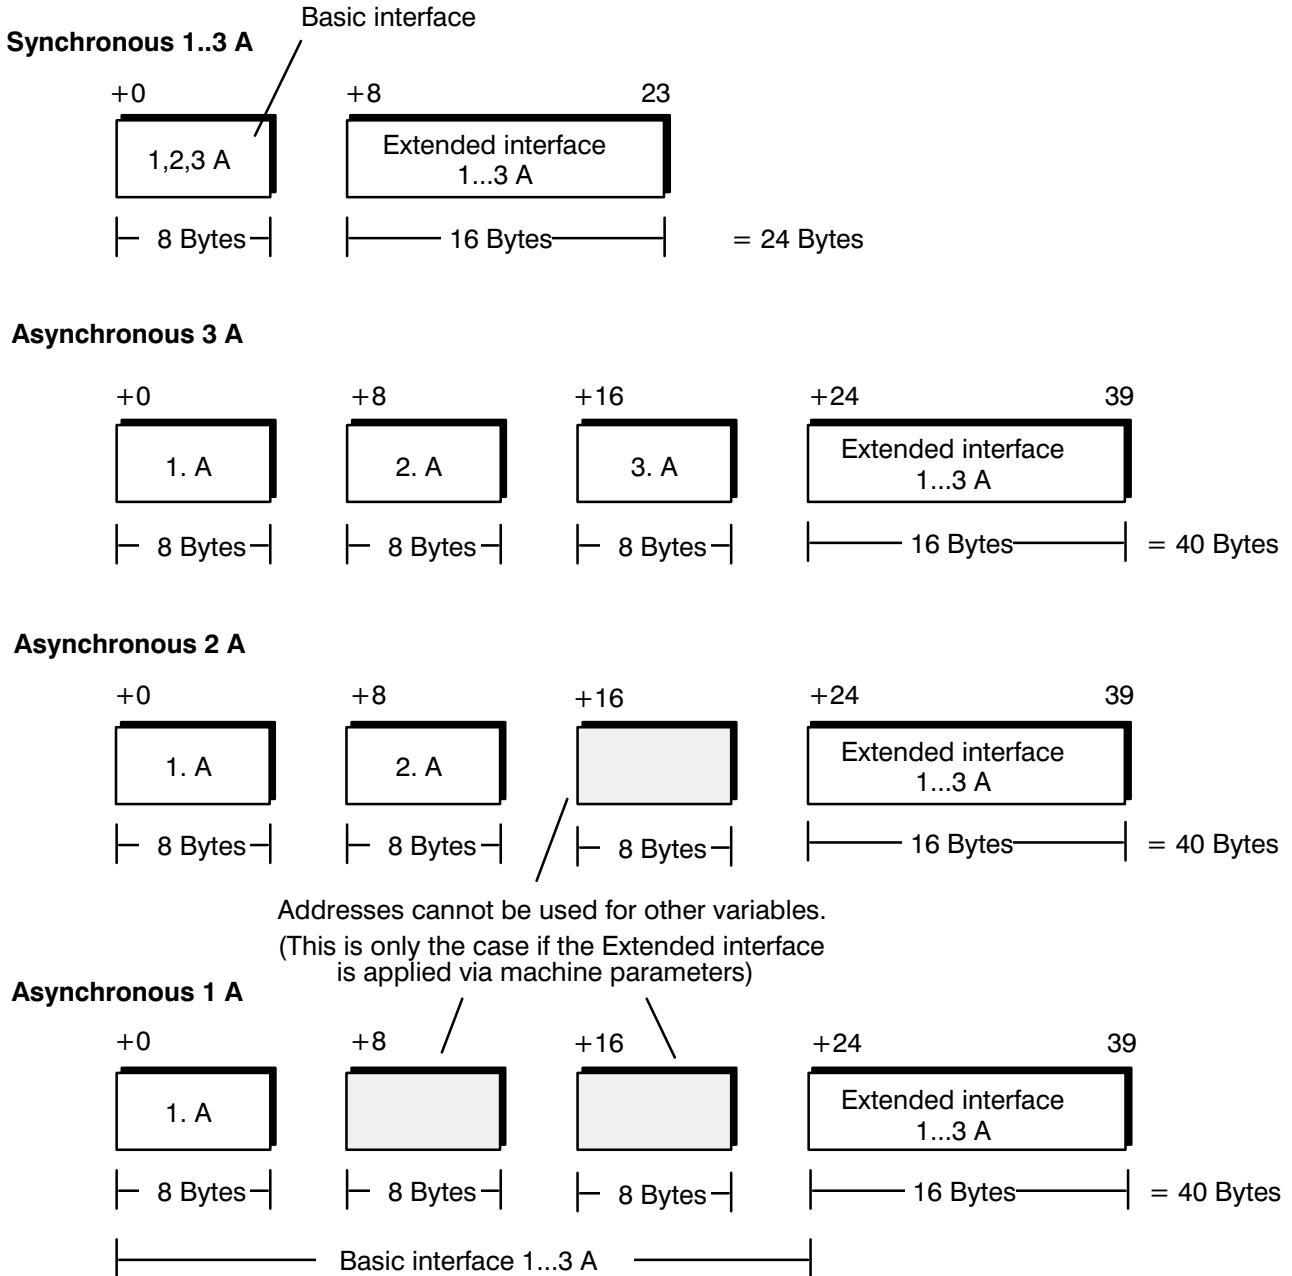

Fig. 7.2
- Memory space must be made available (according to the selected configuration; see fig 7.2) in the PLC for the interface signals. Markers, data modules, data buffers or data field areas can be defined as memory areas.
- The number of bytes transferred depends on the configuration selected in the machine parameter (see fig. 7.2).
In synchronous mode, the CC10.3 / PLC interface occupies 8 bytes of input area and 8 bytes of output area. A diagram area is defined for this in operands M, D, DB or DF. This area is used to depict firstly the CC10 inputs, and the CC10 outputs directly afterwards. The PLC interface can be extended in machine parameter P0042 by 16 bytes of input area and 16 bytes of output area for additional functions (see fig. 7.2).